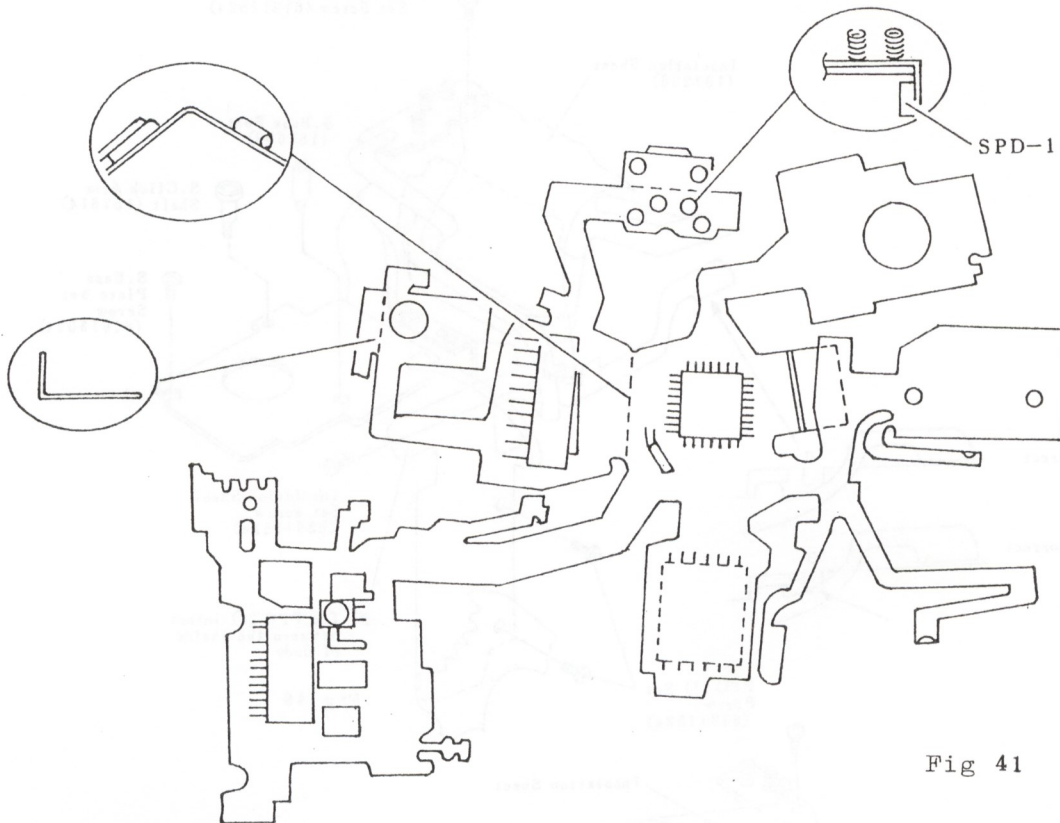

Fig 41
(1) How To Fold and Form FPC(1)
a) Fold and Form the FPC(1) as shown (Fig 41) before installing